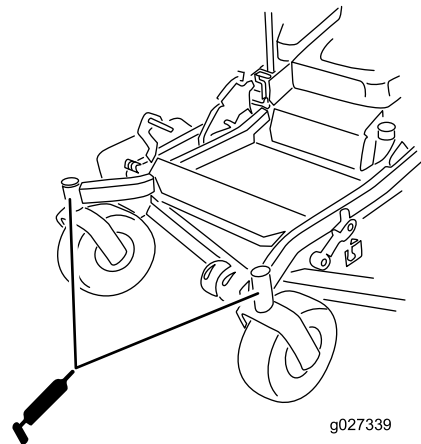

Figure 52
11. Install the hex plug and dust cap (Figure 52).
12. Grease the caster-wheel bearings (Figure 52).